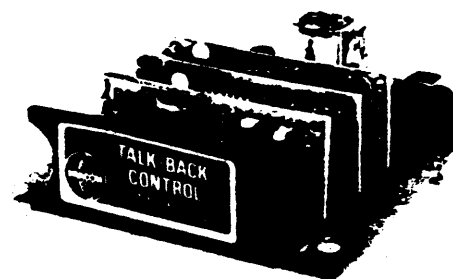
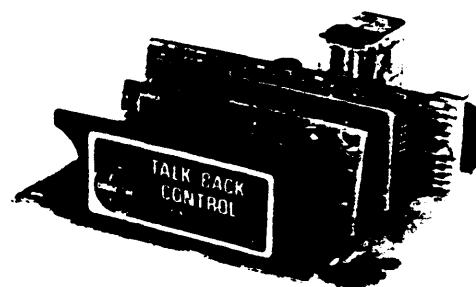
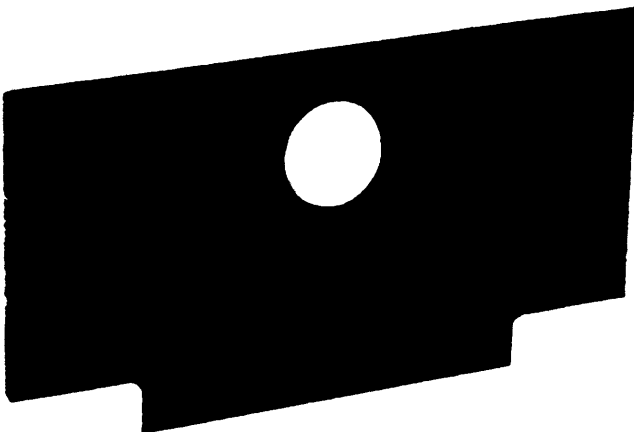

Fig. 7—Standard Talk-Back Control Card
Fig. 8—Adjustable-Gain Talk-Back Card
Fig. 9—Talk-Back Continuity Card
3.29 The Talk-Back Control Card is available in two versions: the standard model (Fig. 7) providing the features just described, and the adjustable-gain model. The Adjustable-Gain Talk-Back Control Card (Fig. 8), in addition to providing all of the standard features, also allows adjustment of the talk-back gain, eliminating the automatic level-compression feature. It is specified if there are any paging zones where ambient noise or other acoustic conditions might cause poor talk-back operation, and its use would improve talk-back performance. For example, in a paging zone with a higher than normal level of equipment noise, talk-back operation could be poor because the loudspeaker(s) pick up the noise as well as the voice of the person trying to respond to the page. The adjustable-gain card allows the speaker gain (sensitivity when acting as a microphone) to be controlled. The paged party has to be closer to the speaker to use talk-back, but the effect of background noise is decreased. If the talk-back feature is not provided, the Talk-Back Continuity Card (Fig. 9) installed at the factory must remain plugged into the TALK-BACK position of the card file.